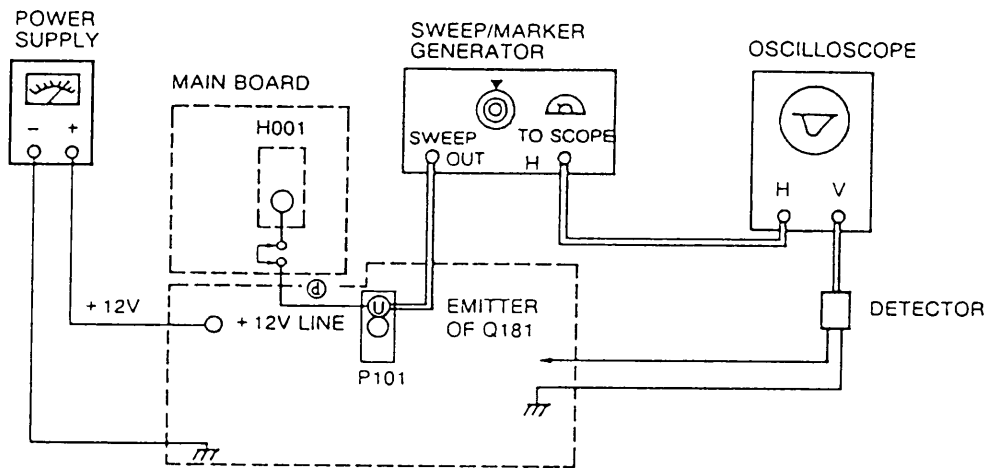

Figure 7. I-F TRAP Alignment
- GENERAL Refer to Figure 7 for the equipment connection.
- SWEEP/MARKER GENERATOR..... Connect to the point ④ as shown in Figure 7 on the MAIN Board.